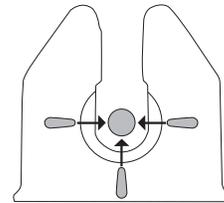

Figure 3
2. Place the conductor (wire) in the jaws. Make sure the wire is centered between the marks on the meter as shown in figure 3. Only place 1 wire in the jaws at a time.